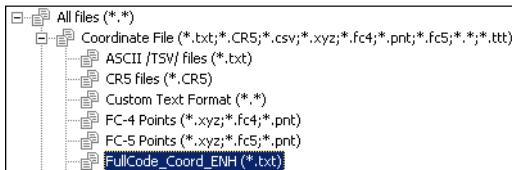

Figure 4-6. Format Name Stored in File Format List
- Store the format name in the list of the coordinate file formats (Figure 4-6 on page 4-4).